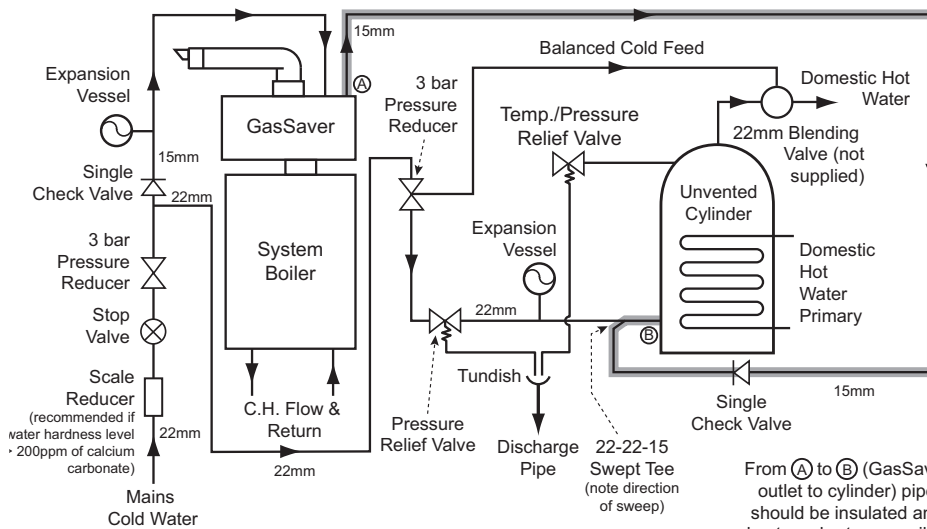

Fig. 11
3. **System boilers** - Ensure that the components of the System Boiler Application kit (7736697 - includes a swept tee) are fitted in accordance with Fig. 11.